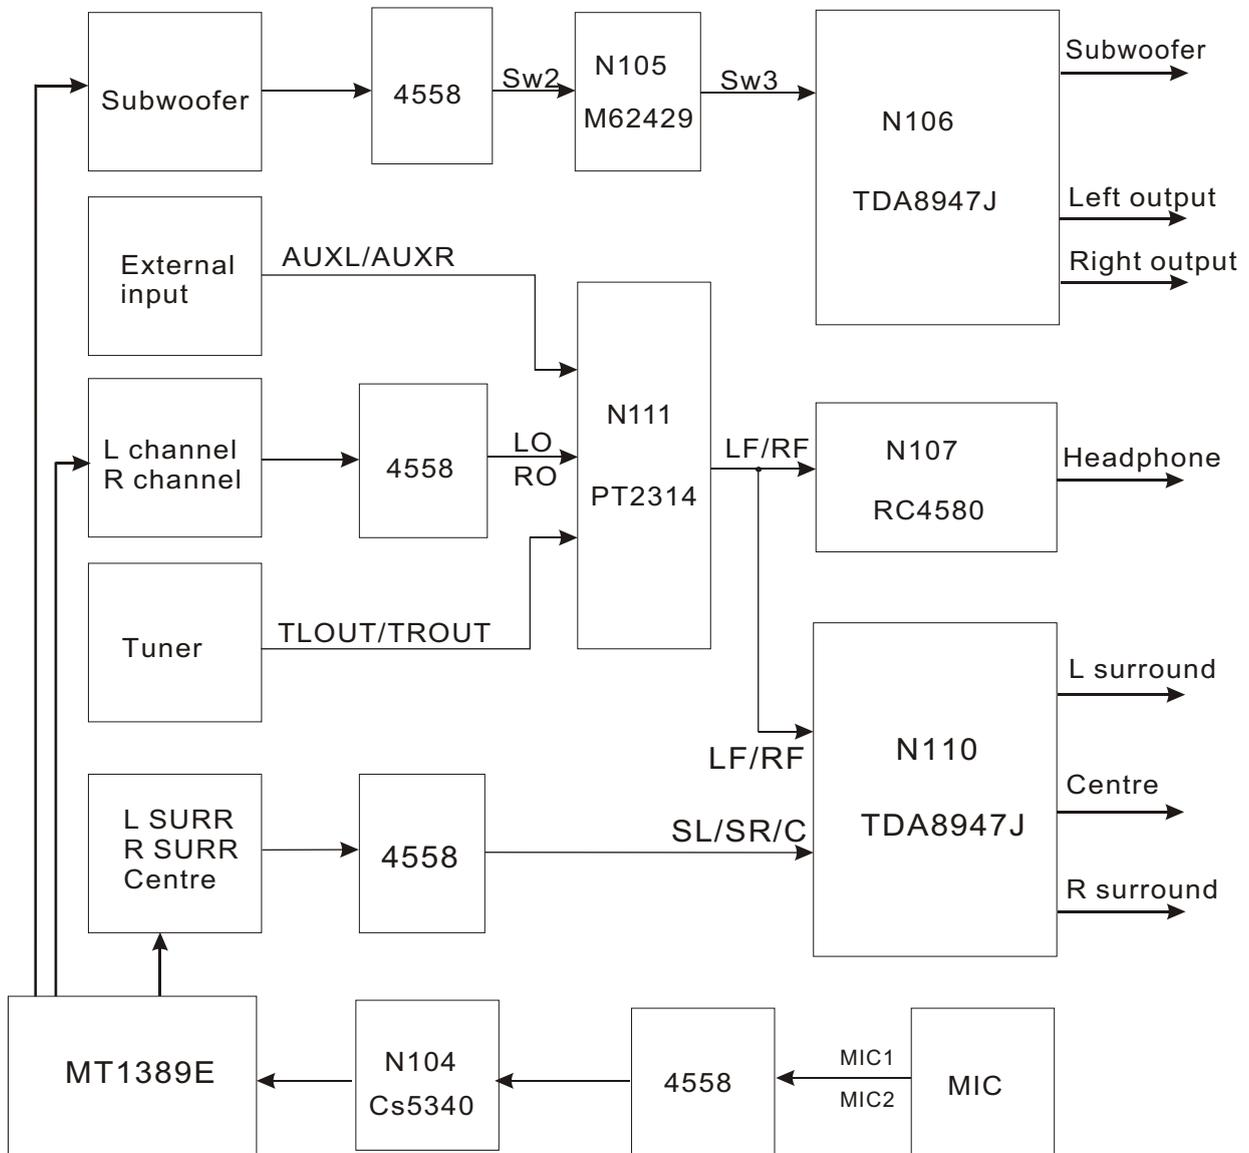

Figure 3.2.11.1 Audio power amplifying circuit diagram
1. Audio power amplifying circuit block diagram is shown in the figure 3.2.11.1: